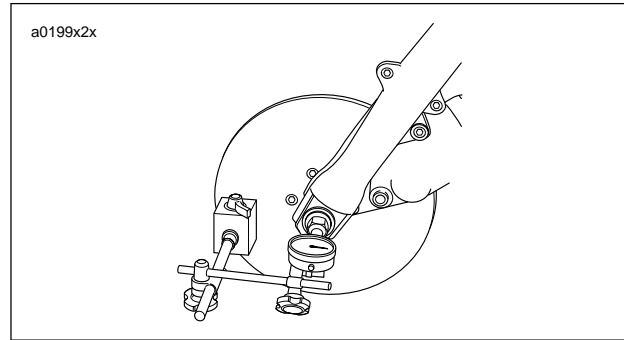

Figure 2-12. Wheel Bearing Inspection (Front Wheel Shown)
2. See Figure 2-12. Mount a magnetic base dial indicator to the brake disc with the dial's contact point on the end of the axle.